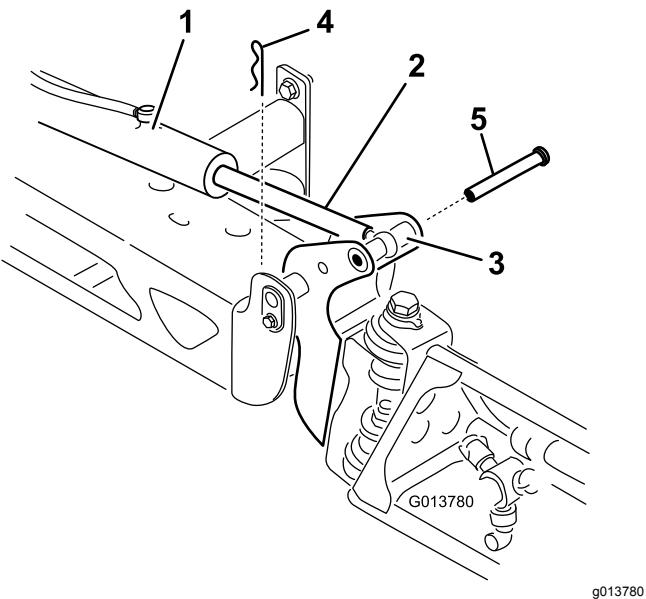

Figure 83
2. Remove the cotter pin from the pivot pin (Figure 83).
3. Lift up on the boom and remove the pin (Figure 83), and slowly lower the boom to the ground.
9. While holding the boom, insert the pin through both boom pivot and actuator rod (Figure 83).